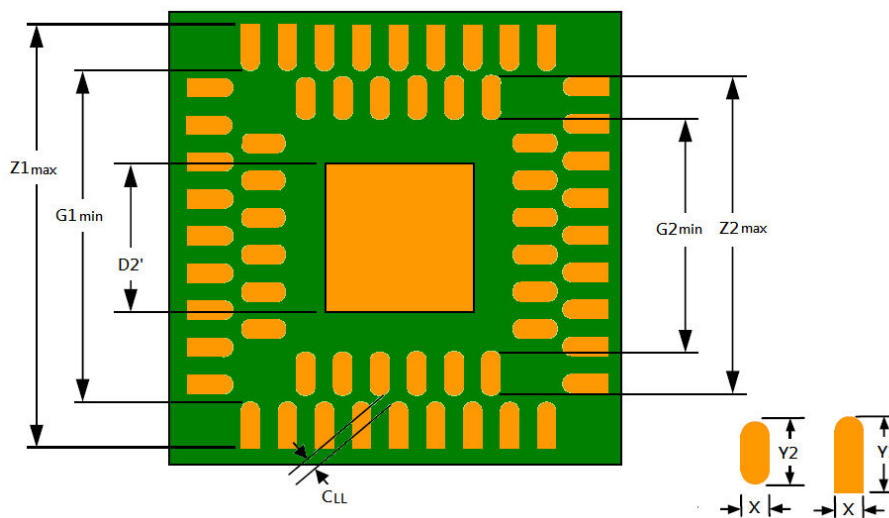

Figure 6
Refer to Figure 6, according to supplier Amkor's recommendation; the land width (X) for both inner and outer rows is needed. Based on history of single row QFN, a lead width (X) of 0.280mm was chosen for 0.500mm pitch. Outer row land pattern dimension Z1Max is calculated using standard IPC methodology and expressed in terms of nominal body size dimension: